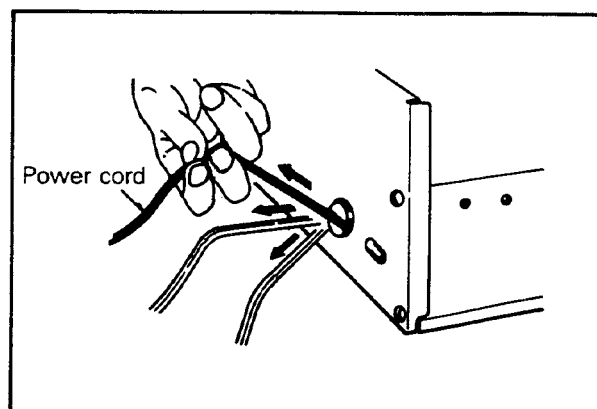

Fig. 2
8. When a power cord has been replaced, check that 10-15Kg of force in any direction will not loosen it. (Fig. 2)